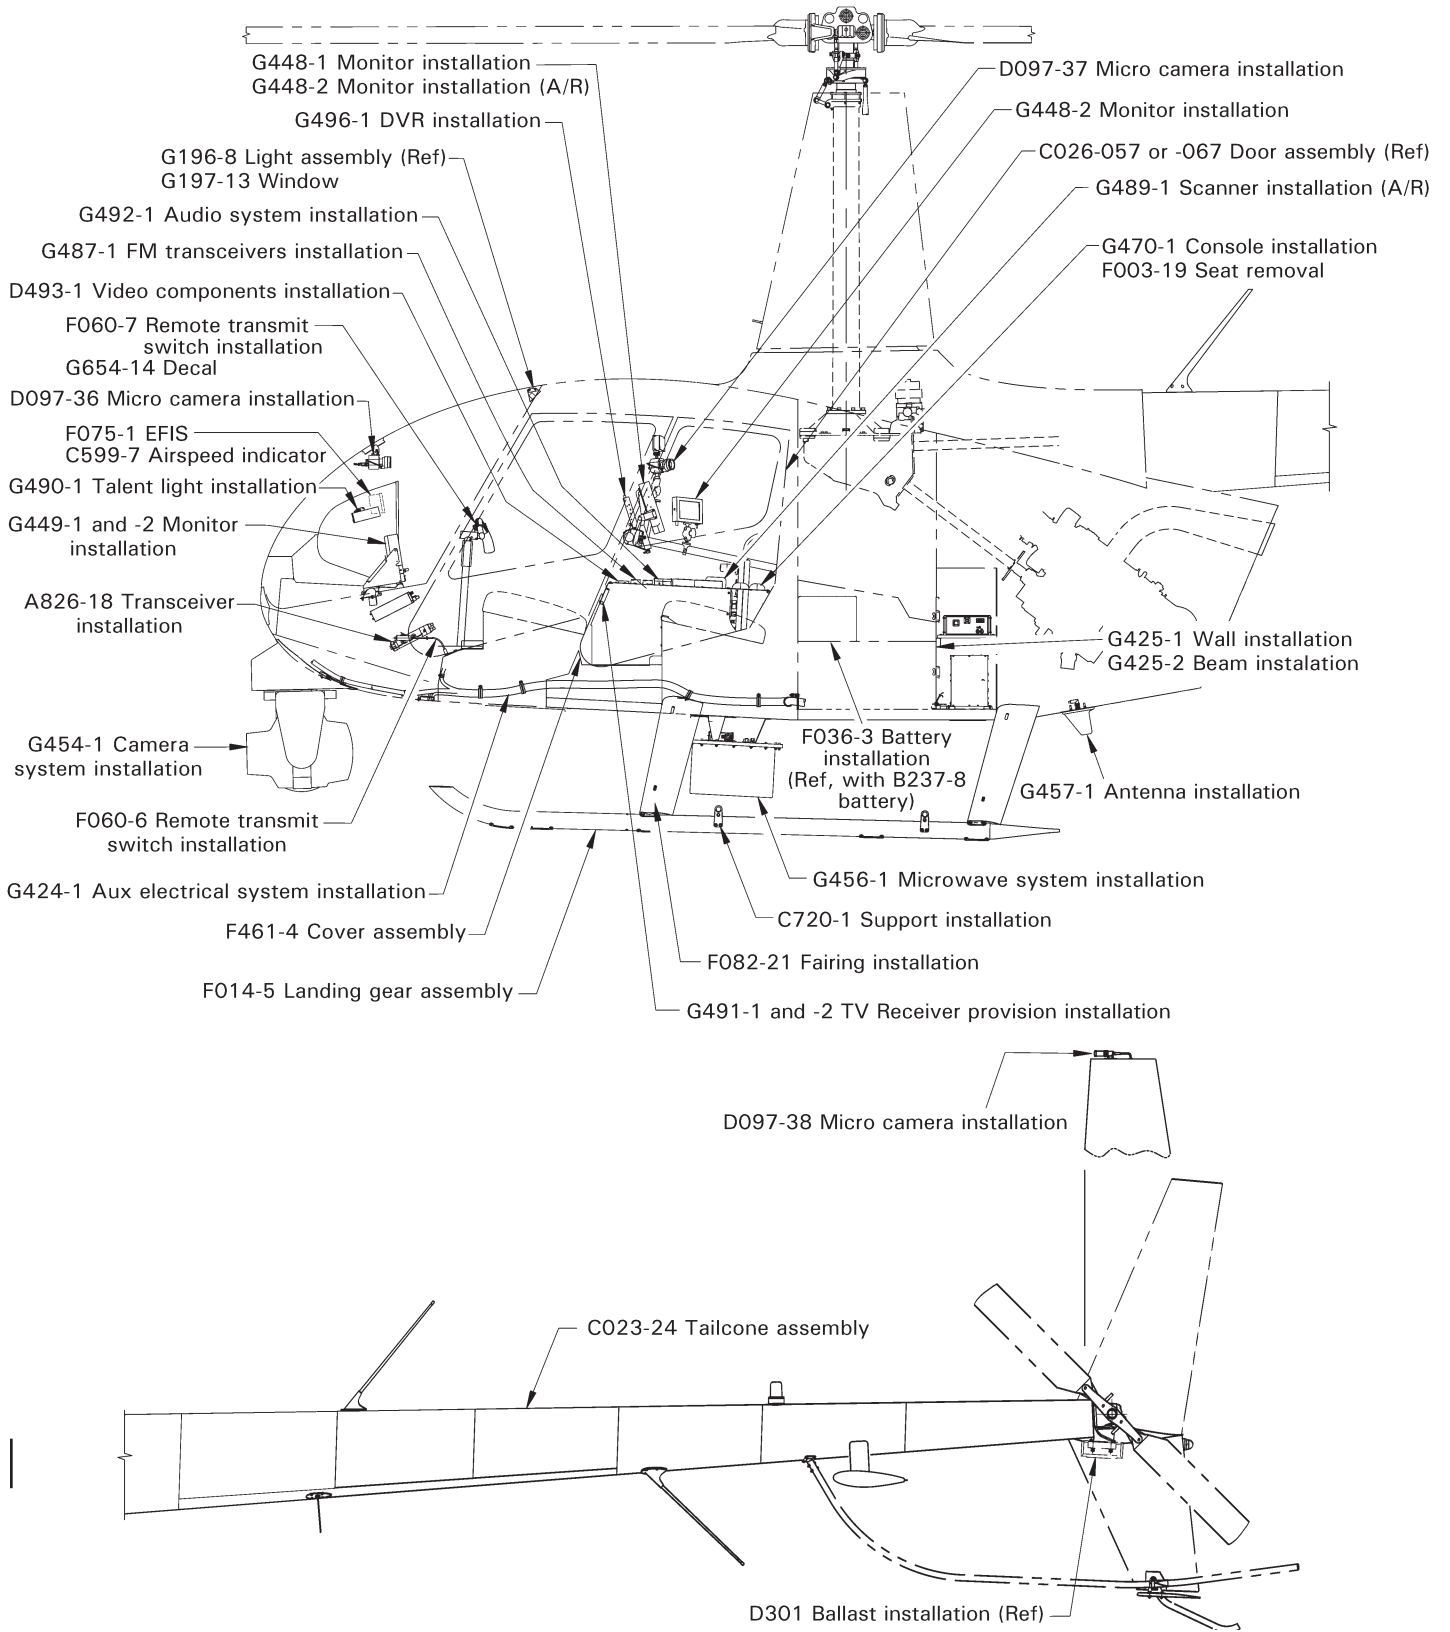

FIGURE 92-1 ENG VERSION
1. Refer to Figure 92-1. Turn battery & avionics switches off and pull out FM1 (10 amp) circuit breaker at panel.
1. Refer to Figure 92-1. Turn battery & avionics switches off. Open circuit breaker panel.
Refer to Figure 92-1. The C023-24 tailcone assembly has wiring provisions for the ENG version's D097-38 HD micro camera (tail).
Refer to Figure 92-1. C599-7 (120 knot V_{NE} , KM/H) airspeed indicator replaces C599-2 (140 knot V_{NE} , KM/H) airspeed indicator.
Refer to Figure 92-1. Remove hardware securing C719-1 support to C242 skid tube and remove support.
1. Refer to Figure 92-1. Turn battery & news equipment switches off, and pull out MICRO CAMS (2 amp) circuit breaker at panel.
1. Refer to Figure 92-1. Turn battery & news equipment switches off. Open news equipment circuit breaker panel.
2. Refer to Figure 92-1. Turn battery & news equipment switches off, and pull out MICRO CAMS (2 amp) circuit breaker at panel.
1. Refer to Figure 92-1. Turn battery & news equipment switches off. Open circuit breaker panel.